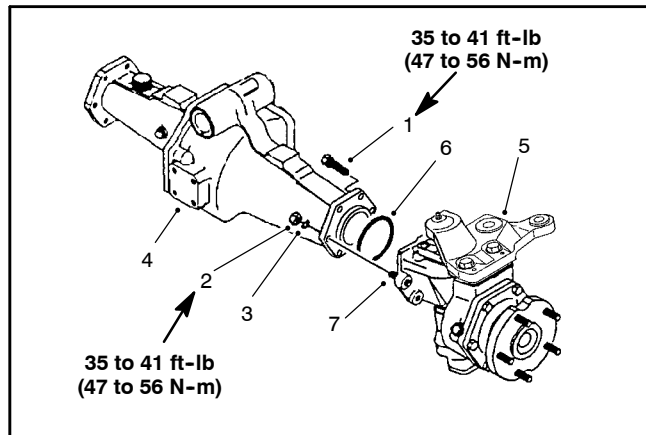

Figure 21
1. Remove the mounting screws, nuts, and lock washers. Remove the bevel gear case/axle case assembly and O-ring from the axle support (Fig. 21).